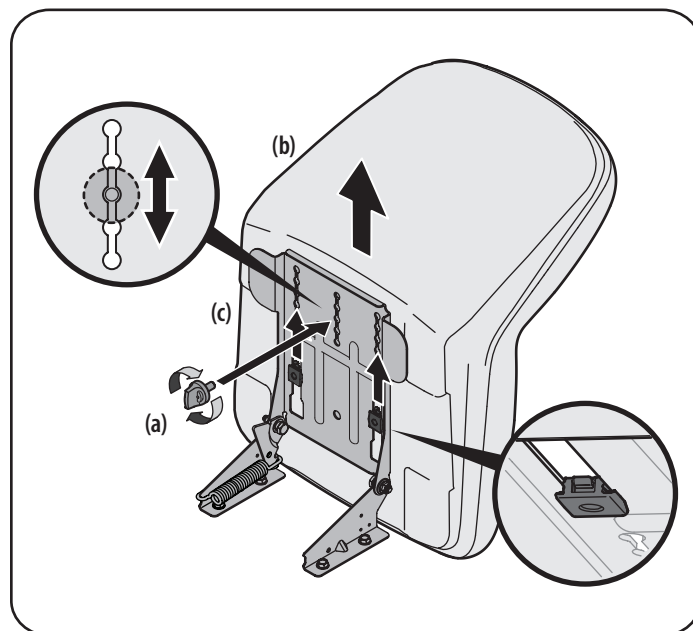

Figure 6
3. Slide the seat (b) rearward in the seat pivot bracket (c), lining up the center rear slot in the seat pivot bracket (c) with the remaining hole in the seat (b) base. See Figure 6.
**NOTE:** Be certain the two seat tabs engage the seat pivot bracket as shown in the bottom right inset of Figure 6.
4. Select the desired position for the seat (b), and secure with the adjustment knob (a) removed in Step 1. See Figure 6.
5. To adjust the position of the seat, remove the adjustment knob (a) on the bottom of the seat (b). Slide the seat (b) forward or backward as desired. Reinstall the adjustment knob (a). See Figure 6.